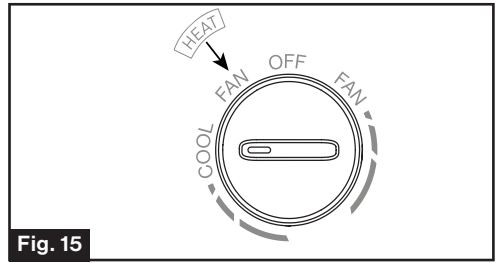

Fig. 15
20. For the decoration plate with icon "FAN", cover with the provided "HEAT" decal. (Fig. 15)